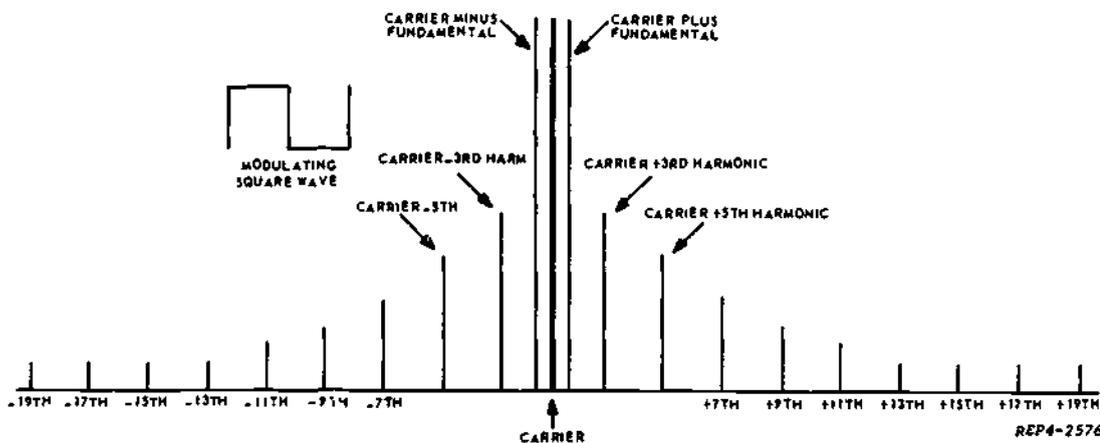

Figure 23. Spectrum Distribution when Modulating with a Square Wave
In figure 23, observe the modulating square wave. You know that it contains an infinite number of odd harmonics as well as its fundamental frequency. Let us say that the square wave has a fundamental frequency of 1 kHz, and will be used to modulate an RF carrier signal of 1 MHz. When these signals heterodyne, two frequencies will be produced - a sum frequency (1.001 MHz), and a difference frequency (.999 kHz). Not only will the fundamental frequency of the square wave heterodyne with the carrier, but each of the harmonics contained in the square wave will also heterodyne with the carrier, and sum and difference frequencies associated with those harmonics are produced. For example, the third harmonic of the modulating square wave (3 kHz) when heterodyned with the carrier will produce an upper frequency of 1.003 MHz, and a lower frequency of .997 kHz. Another set of sum and difference frequencies are produced for the fifth harmonic of the square wave, and so on to infinity.
Now look at figure 23 and see the relative amplitude of the sidebands as they relate
to the amplitudes of the harmonics found in the square wave. Note the first set of sum and difference signals, these are directly associated with the amplitude of the square wave. The second set of sum and difference signals are related to the third harmonic content within the modulating square wave. The third set is associated with the fifth harmonic and is only one-fifth the amplitude of the first set of sum and difference signals. This rule will apply for each sum and difference signal to infinity. Notice that the upper and lower sidebands (figure 23) are made up of the sum and difference signals produced during the modulation process.
2. Refer to figure 23. If the frequency of the carrier is 1 MHz, and the 5th harmonic is 5 kHz, what would be the two side frequencies developed by this harmonic?